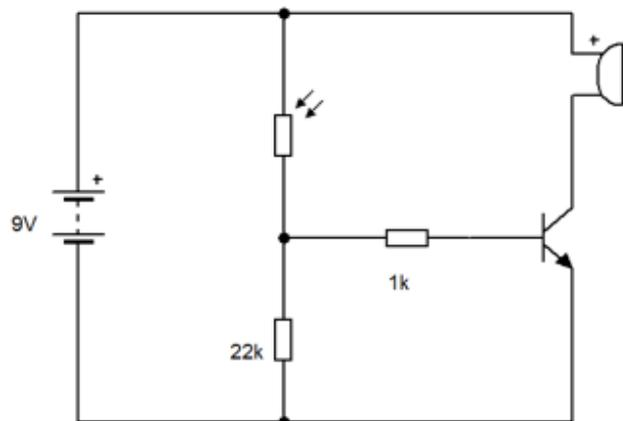
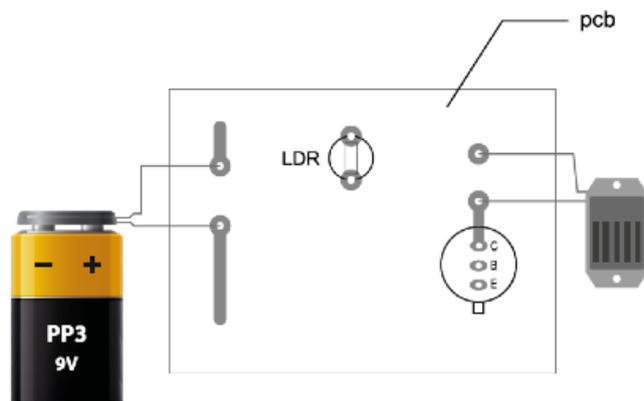

Fig.1
Fig. 2
1 Fig. 1 shows a circuit diagram for a transistor circuit.
A pupil is manufacturing a PCB for the circuit shown in Fig. 1. The incomplete simulated PCB design is shown in Fig. 2.
(iii) Complete Fig. 2 as follows:
- Draw PCB tracks to connect the components so that the PCB connections are the same as in the circuit diagram in Fig. 1.